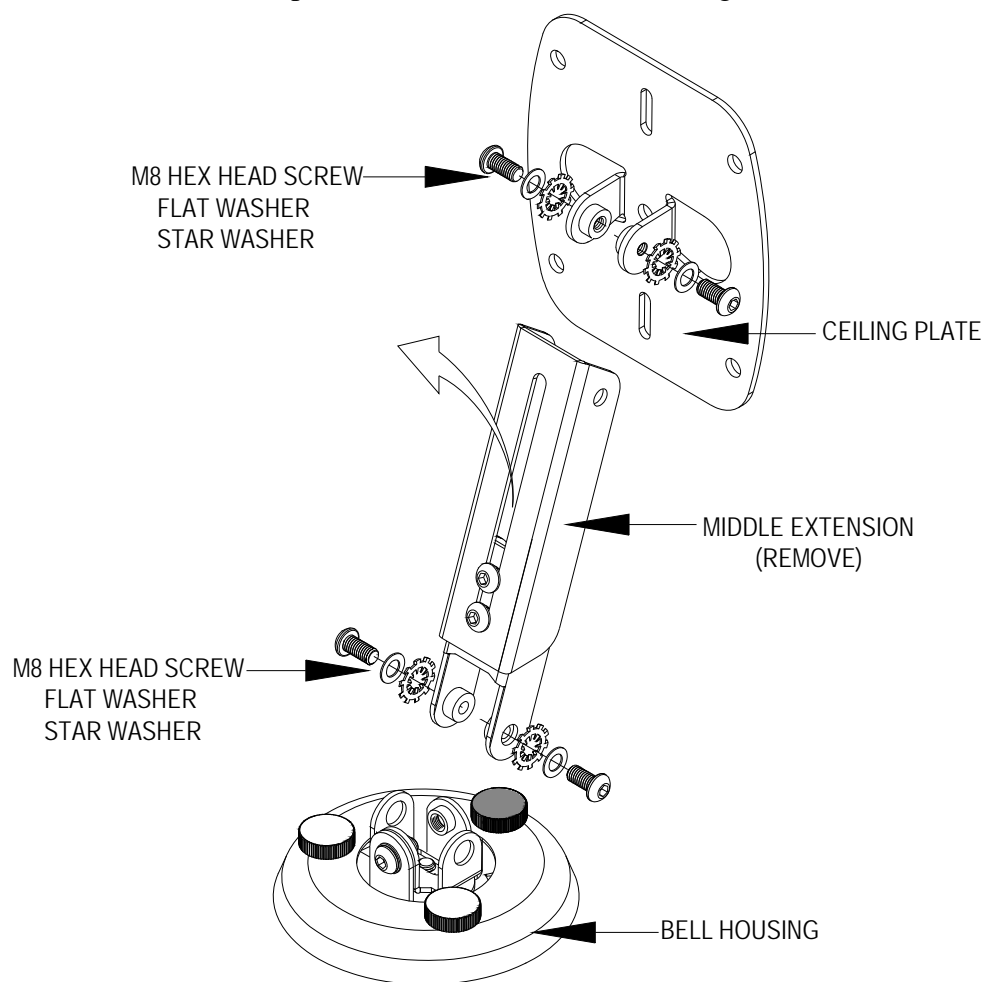

Figure 1. Extension Removal
1. Remove the middle extension from the Gyrolock by removing two of the M8 x 16 hex head screws, washers and star washers from the top and bottom of the extension (Figure 1).